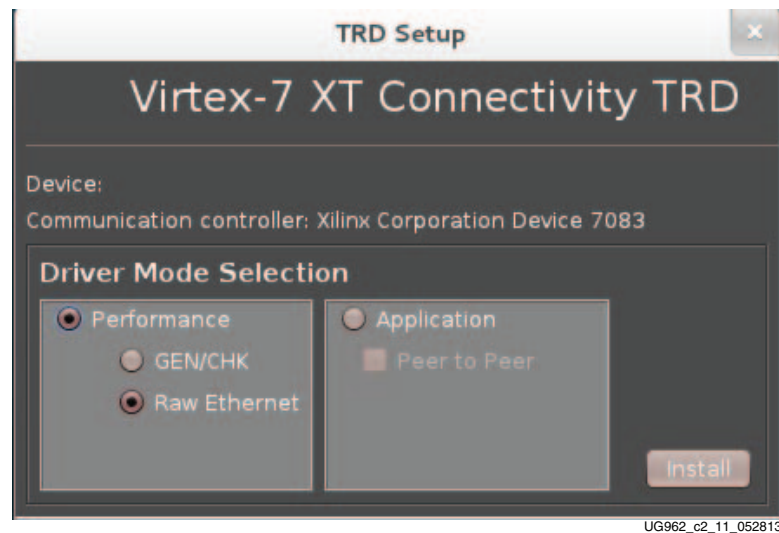

Figure 2-14: Raw Ethernet Driver Installation
1. In the Driver Mode Selection area select **Raw Ethernet** (Figure 2-14).